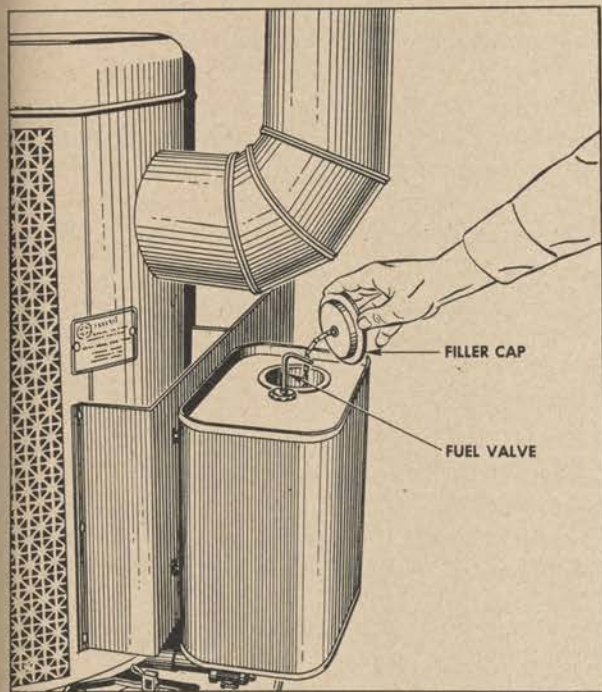

Figure 295. Oil stove fuel tank.
a. DESCRIPTION. The barge is equipped with two oil stoves to heat the galley, and keep crew quarters warm during cold weather. Obtain fuel for the stove by tapping the day tank of the main Diesel engine (fig. 163); store it in a tank having a capacity of $3\frac{1}{2}$ gallons. Fill the tank by removing the cover as shown in figure 295.